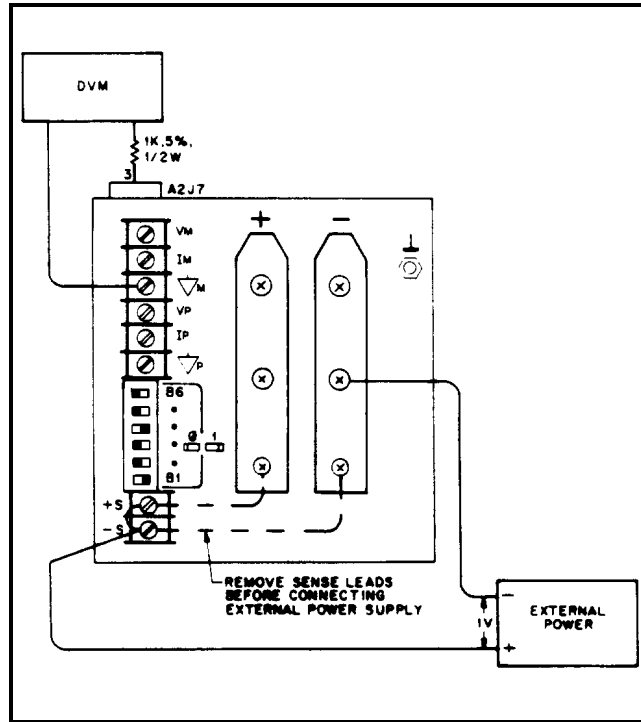

Figure 2-1. Common Mode Setup
- e. Remove both local sensing straps from rear-panel terminal block, and connect a 1-volt external power supply with its + lead to - S and its--lead to - Out. See Figure 2-1.
- a. Attach the DVM from  $\nabla$  M on the rear panel to A2J3 pin 3 (V-MON buffered). See DVM connection in Figure 2-1.